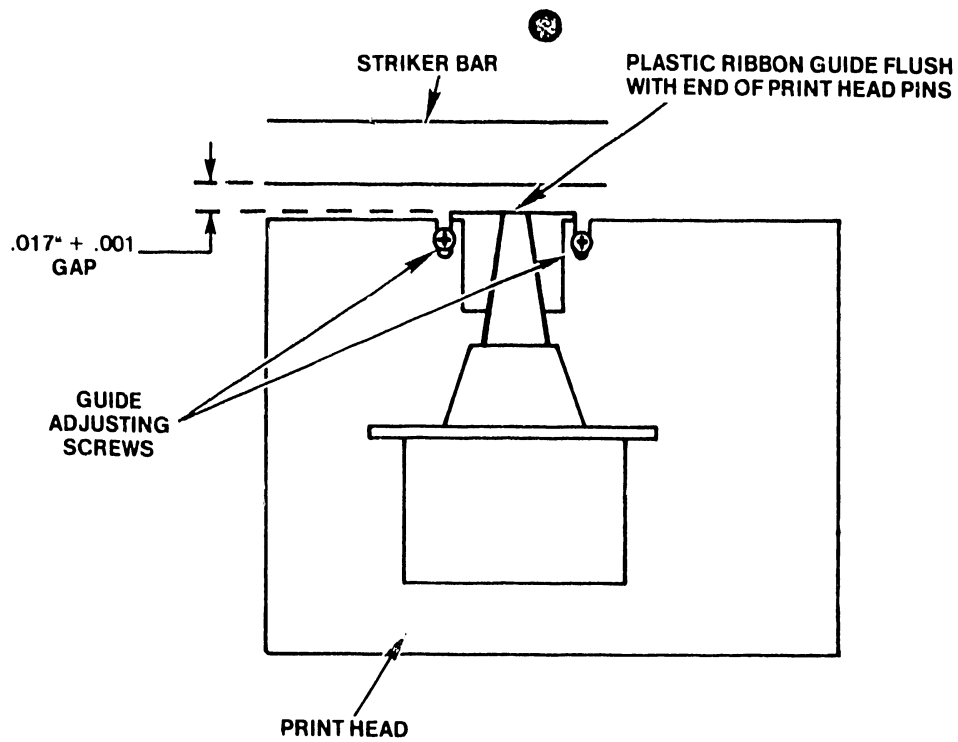

Figure 5-3 Ribbon Guide Shield Adjustment
- a. Loosen two guide adjustment screws and adjust the ribbon guide for  $.017''$  gap from the striker bar as shown in Figure 5-3.